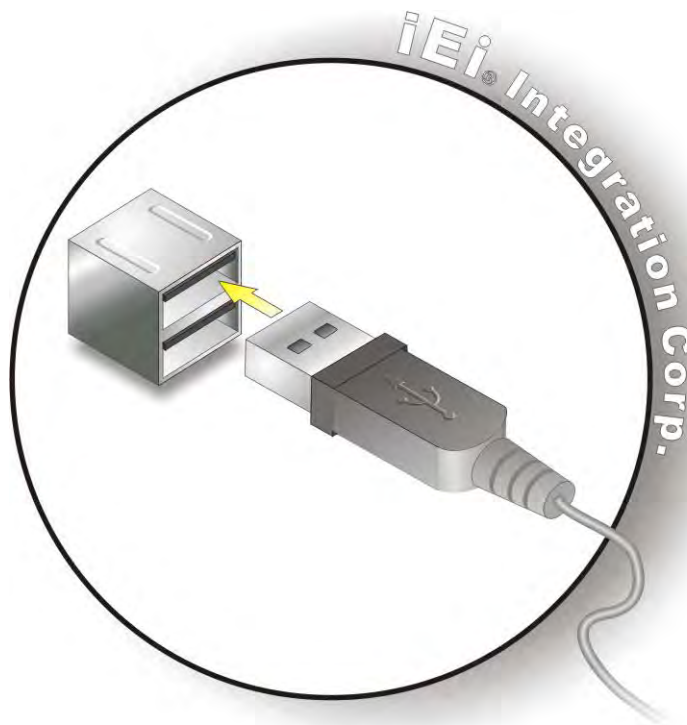

Figure 4-8: USB Connector
Step 2: Insert a USB Series "A" plug. Insert the USB Series "A" plug of a device into the USB Series "A" receptacle on the external peripheral interface. See **Figure 4-8**.